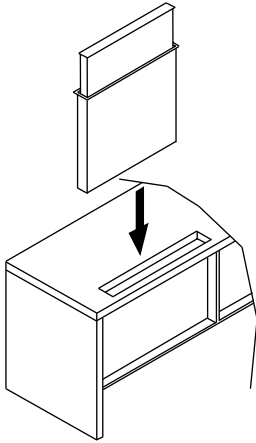

Fig 4
1. Cut-out the hole in the work top and place the Elektra into the cupboard (Fig 4).